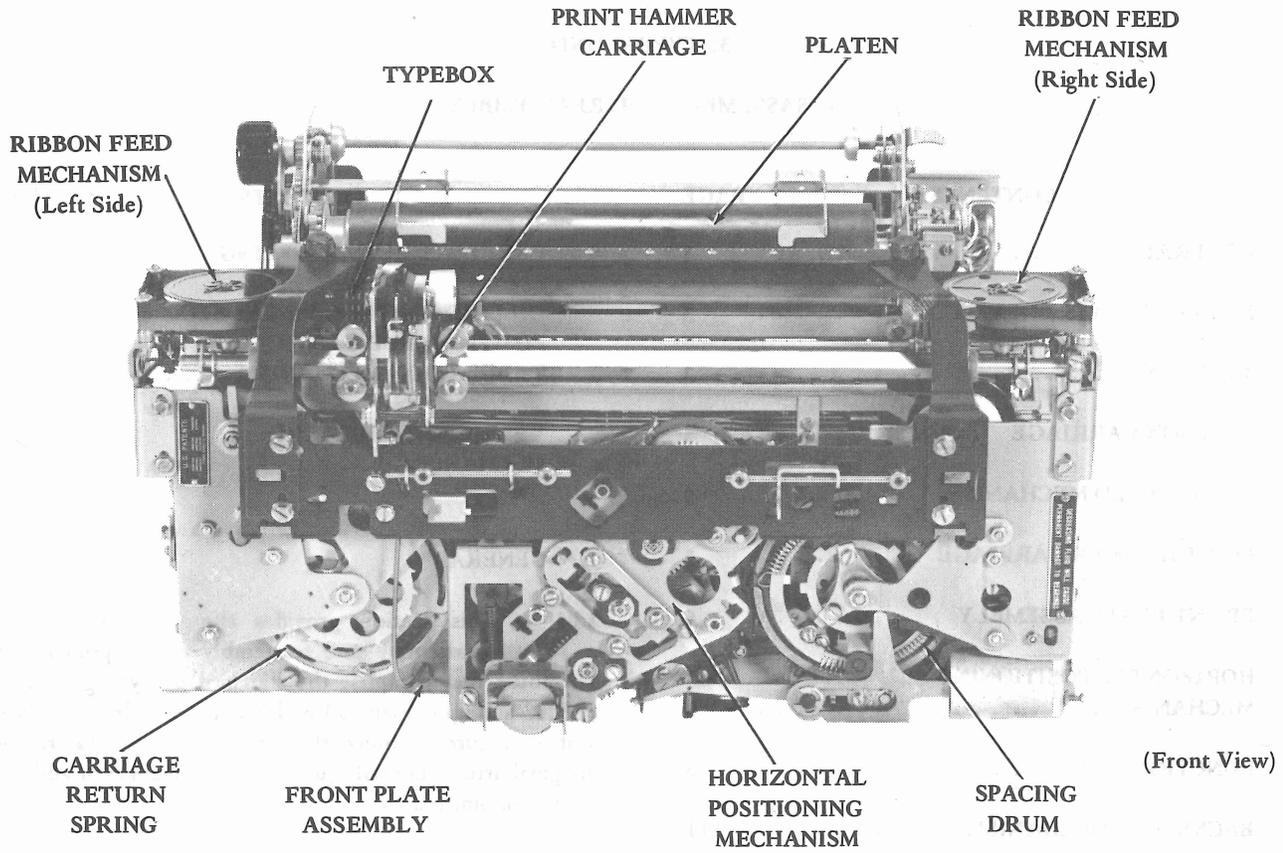

Figure 2 - 37 Standard Typing Unit (Friction Feed)
1.11 Reference in the procedures to left or right, up or down, top or bottom, etc, refer to the unit as viewed facing the front plate assembly (Figures 2 and 3).
2.08 To remove the ribbon feed mechanism (Figures 2, 3, and 5) from the unit – left side, proceed as follows.
2.10 To remove the ribbon feed mechanism from the unit – right side (Figure 2 or 3) proceed as follows.
2.11 To replace the ribbon feed mechanism – right side (Figure 2 or 3), reverse the procedure used in removal. Check Ribbon Reversing Connecting Rod adjustment.
2.12 To remove the print hammer carriage from the unit (Figure 2 or 3), proceed as follows.
2.13 To replace the print hammer carriage (Figure 2 or 3), reverse the procedure used in removal. Check the following adjustments:
2.14 To remove the front plate assembly from the unit, proceed as follows (Figures 2, 3, 6, 7, and 8).
2.15 To replace the front plate assembly (Figures 2, 3, 6, 7, and 8), reverse the procedure used in removal. The carriage return lever must be in the slot in the carriage return link assembly. The horizontal positioning slide trip levers must be connected to their respective codebars.
2.16 To remove the horizontal positioning mechanism (Figure 2 or 3) from the unit, proceed as follows.